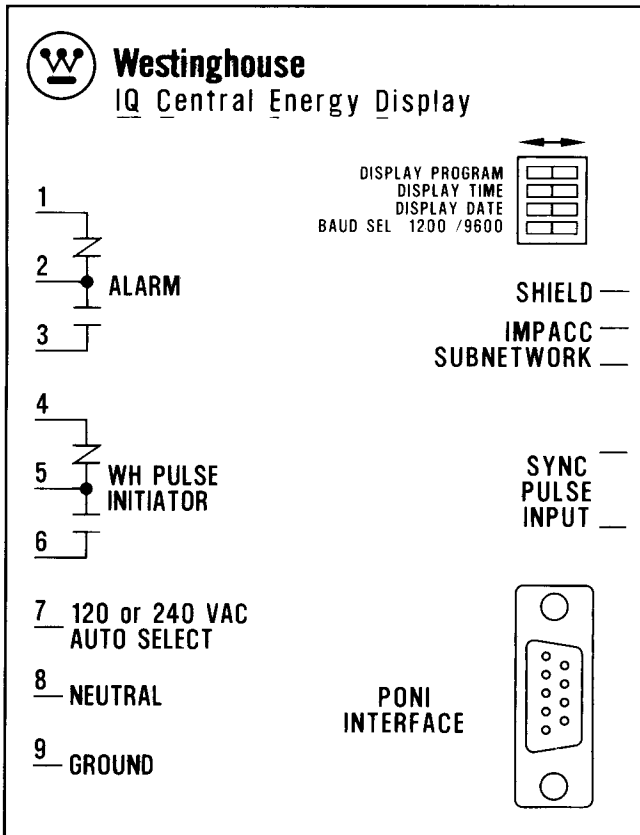

Figure 2.3 — Rear Access Area
Study Figure 2.3 and note the following items:
**2.1.3 External Hardware** — Each IQ CED requires customer-supplied 120 or 240 VAC, 50 or 60 Hz control power wired into contacts 7, 8 and 9 (Figure 2.3).